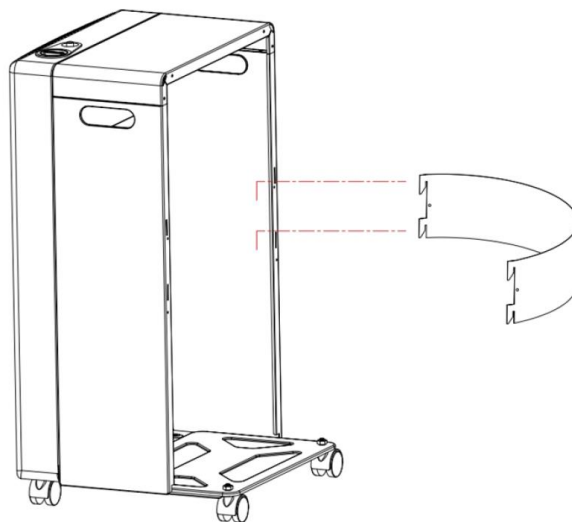

Fig. 6
6. Install the gas container holder on the left and right sides after installing the gas container on the bottom panel of the device (see fig. 6)